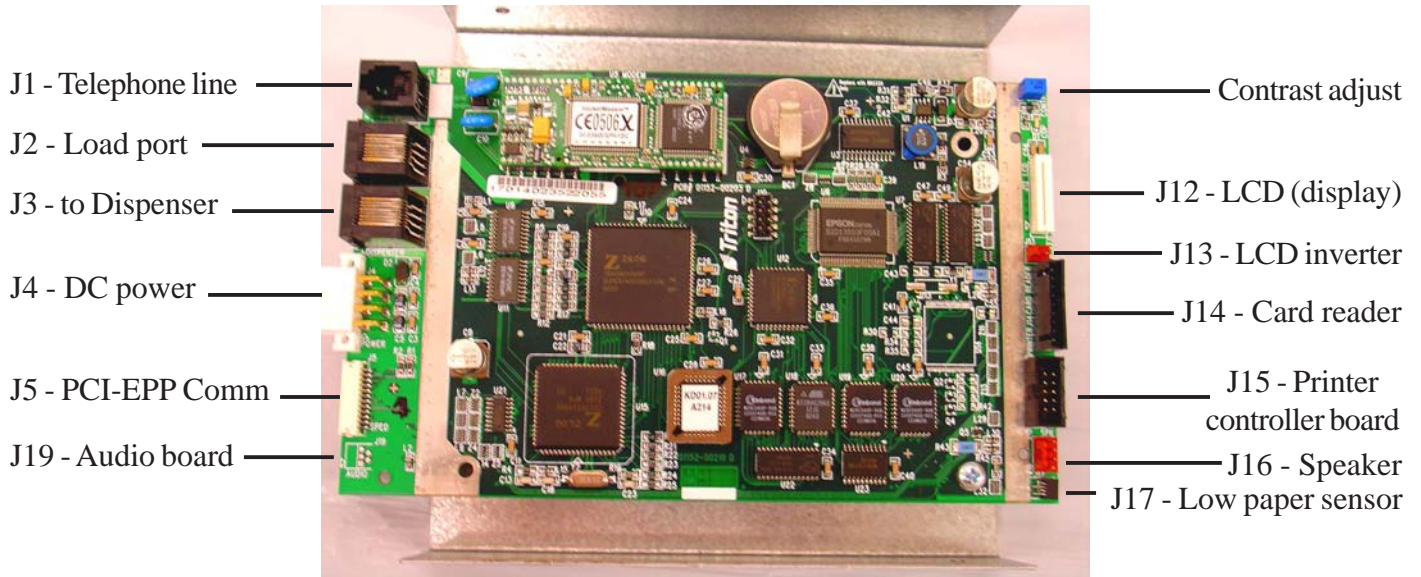

Figure 13. Main board connections.
11. Install the main board assembly on the control panel. Reconnect all the cables previously removed. Figure 13 (below) shows cable connect points. Connect the Data/Comm cable from the PCI-EPP to the main board.